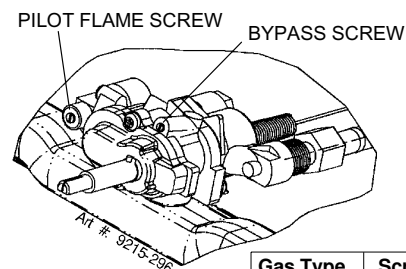

FIGURE 2
- Adjust oven thermostat (see figure 2).